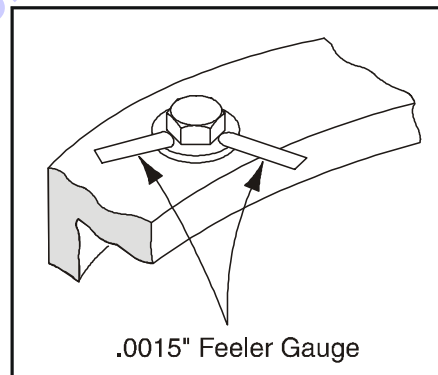

Figure 3-20. Swing Bolt Feeler Gauge Check
- b. At the position indicated on Figure 3-20. try to insert the 0.0015 in. feeler gauge between the bolt head and hardened washer at the arrow indicated position.